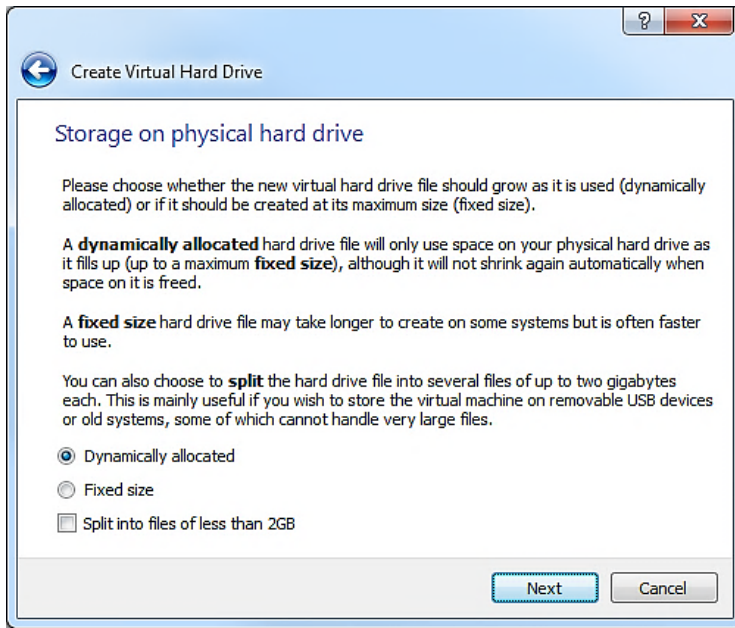

Figure 8: Selection of type of hard drive
6. Choose Dynamically Allocated for the VM hard drive (Figure 8). This will allow the VM hard drive to only take storage space as is needed up to the size limit chosen in the previous step. Choose Continue.